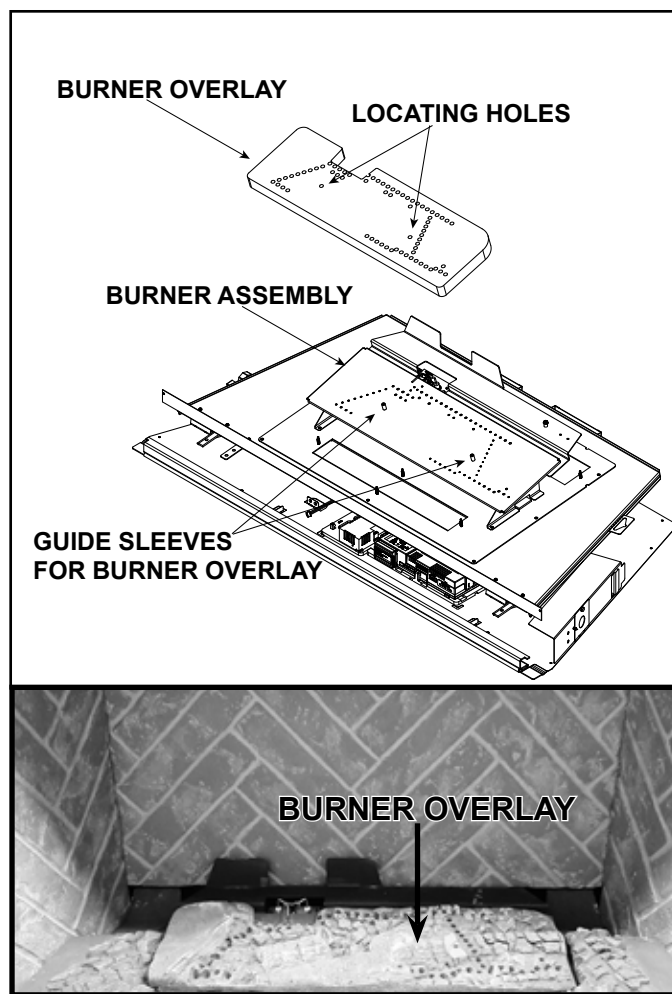

Figure 11.11 Burner Overlay Installed
3. To install the burner overlay, mate the locating holes with the guide sleeves. Install fiber burner top so that it makes full contact with the underlying burner assembly. See Figure 11.11.